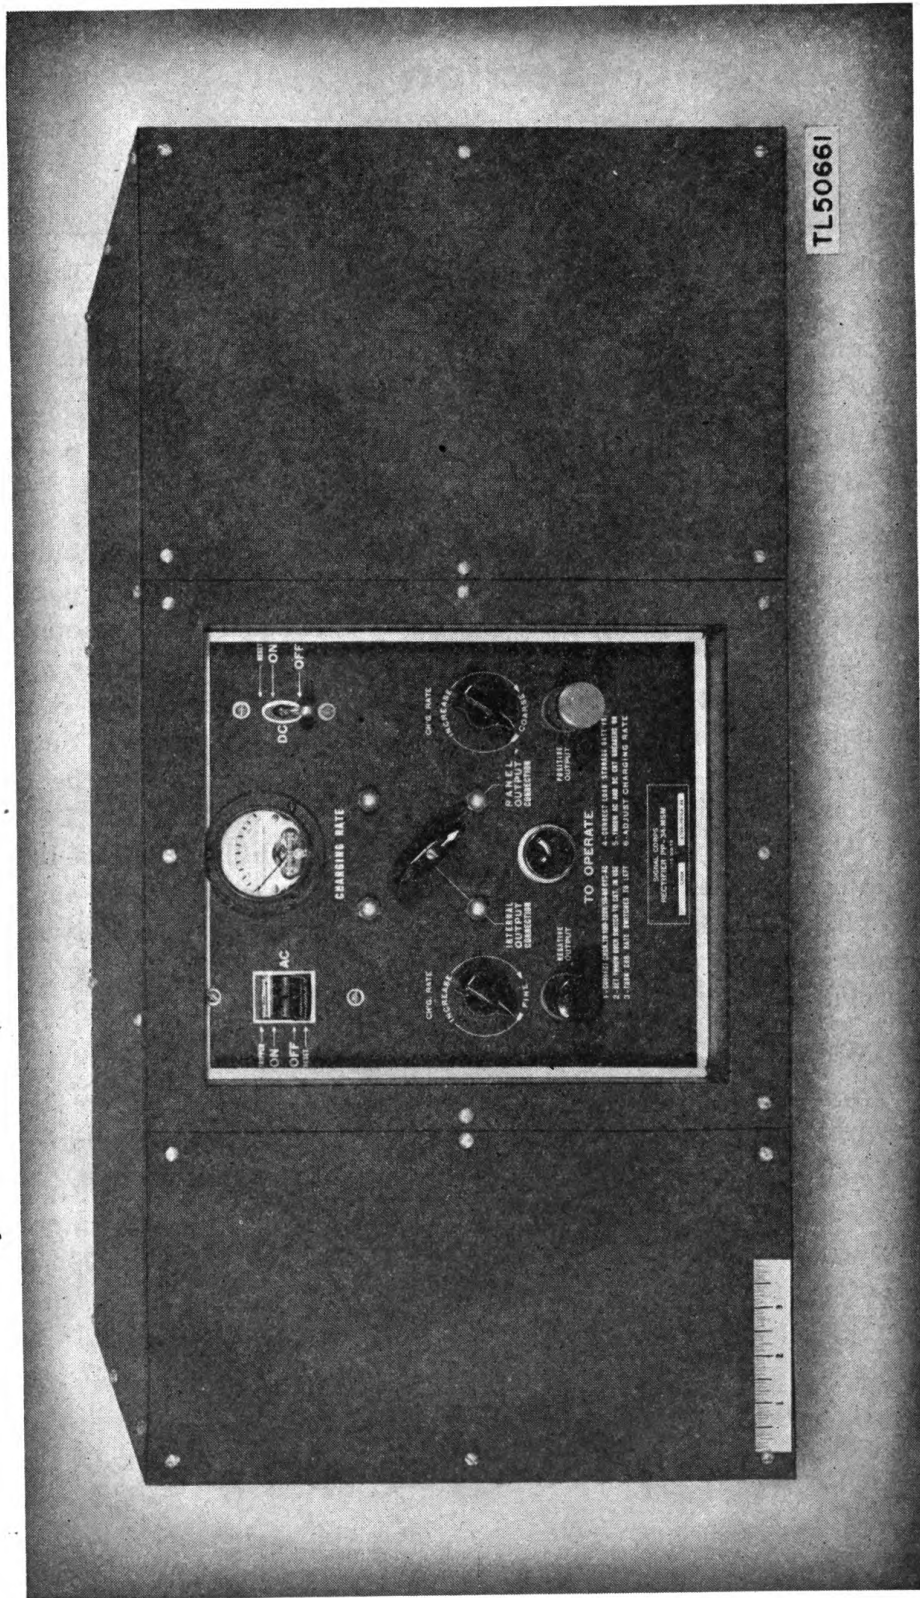
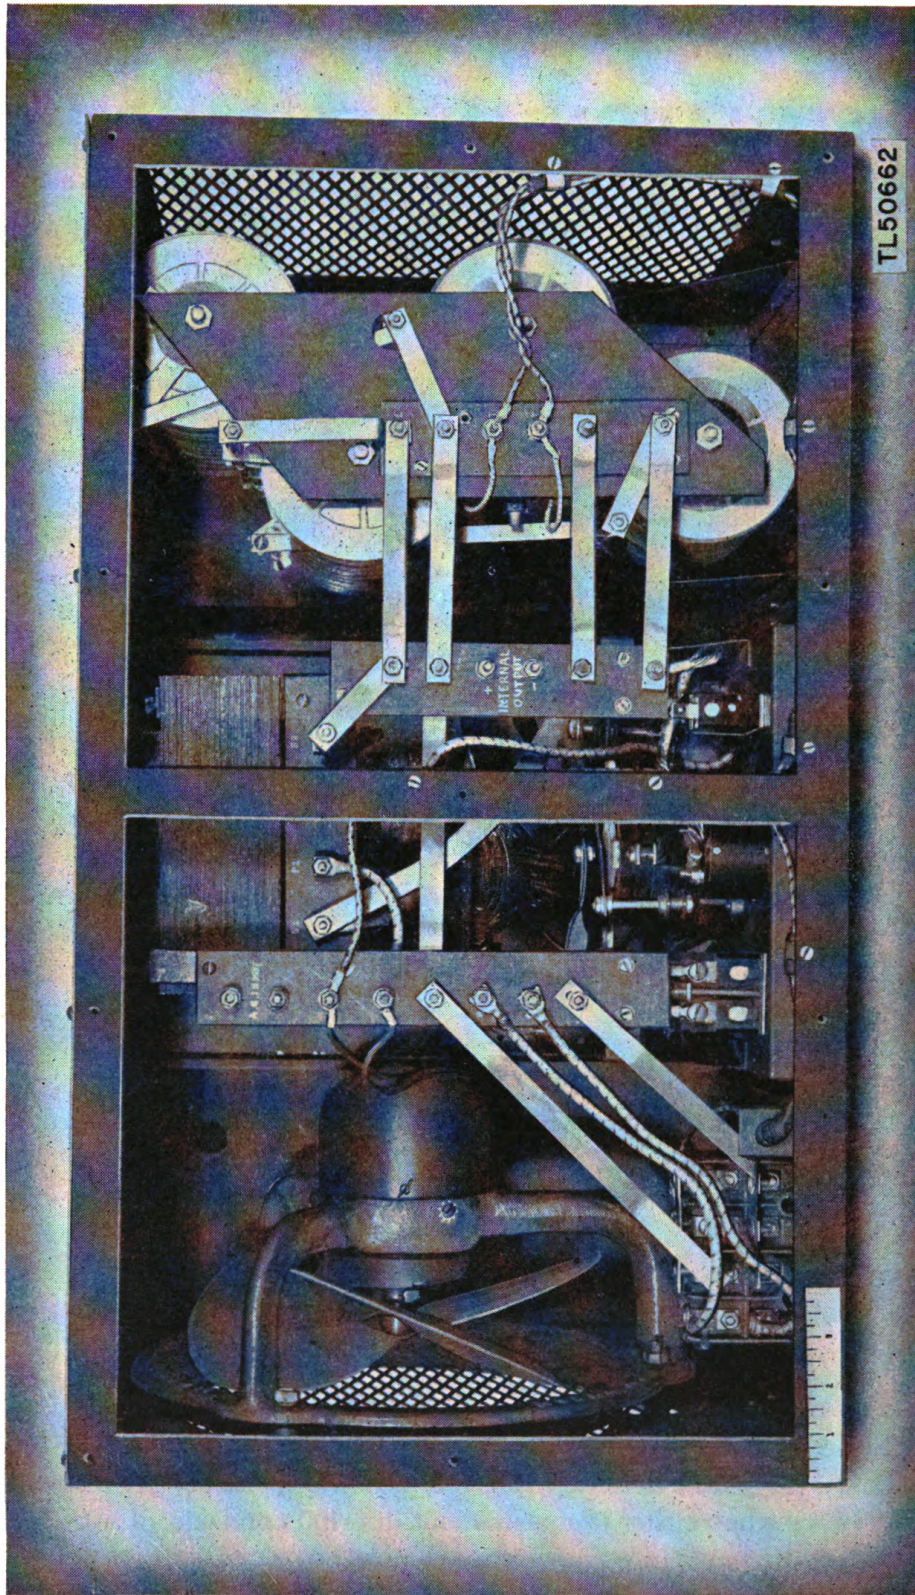

Figure 1. Rectifier Power Unit PP-34/MSM, front view.
Figure 2. Rectifier Power Unit PP-34/MSM, top view, cover removed.
3. DESCRIPTION. The rectifier consists of three sections mounted in an angle-iron frame and covered with 16-gauge sheet-steel panels. A front view of the rectifier is shown in figure 1. All controls are mounted on the center panel. The controls consist of an a-c circuit-breaker, a d-c circuit-breaker, and a current throwover switch located in the center of the panel. The switch transfers the load from the internal output connections to the panel output connections located below the tap switches and identified as **NEGATIVE OUTPUT** (black) and **POSITIVE OUTPUT** (red) (fig. 1). On the control panel are a pilot light, which indicates when the equipment is in operation, and two tap-changing switches, **FINE** and **COARSE** (fig. 1). The rectifier is entirely self-contained and need only be connected to the a-c source by the cord and plug provided.
b. When the rectifier is to be permanently connected to a storage-battery load, it is necessary to bring the d-c cables through the knockout provided in the bottom of the rectifier to the + and — INTERNAL OUTPUT terminals (fig. 2), located on the panel strip on the right-hand side of the transformer section. The current throwover switch, located at the center of the control panel, should be set at INTERNAL OUTPUT CONNECTION (fig. 1).
c. When the rectifier is used as a temporary charging installation, connect the d-c cables to the NEGATIVE OUTPUT binding post (black), and the POSITIVE OUTPUT binding post (red). Be sure the cable with the red insulated clip is connected to the positive binding post, and the cable with the black insulated clip is connected to the negative binding post on the panel of the rectifier. Turn the current throwover switch to PANEL OUTPUT CONNECTION (fig. 1).
b. Connect the battery, or batteries, to the d-c cables. Observe the correct polarity. The a-c circuit-breaker should be turned to ON. Then turn the d-c circuit-breaker to ON. The charging rate can then be adjusted by turning the CH'G. RATE COARSE tap switch (fig. 1) to the right. This will give the coarse adjustment of the charging rate, which should be a few amperes lower than the final rate desired. The fine adjustment can then be made by the CH'G. RATE FINE tap switch (fig. 1). The charging rate ammeter (fig. 1) indicates the amount of direct current supplied to the storage battery load by the rectifier.
12. REMOVAL OF PARTS. In case of failure of any of the parts, throw the a-c switch and the d-c switch to OFF. Disconnect the rectifier from the power source and the battery or batteries being charged; then remove the top cover. Disconnect the bus-bar connecting the three sections of the rectifier from the terminal strips (fig. 2). The fasteners holding the center panel may then be removed and the entire transformer and control assembly removed from the rectifier frame as a drawer. The entire unit can be replaced from the spare parts group, or any component part which has failed can be replaced by itself. The rectifier, or right-hand section, can also be removed as a drawer, by removing the front panel fasteners. The magnetic contactor is mounted on the left-hand panel, which may be removed in case it is necessary. Fuses are not used in the Rectifier Power Unit PP-34/MSM, since the a-c and d-c circuit-breakers furnish the necessary protection against overloads.